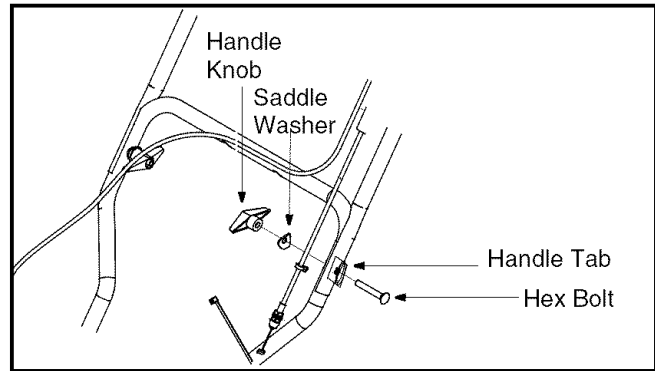

Figure 2
2. Loosen the handle knob, saddle washer and handle tab on each side of the handle. See Figure 2.
4. Tighten the handle knobs on each side of the handle. Refer to Figure 2.